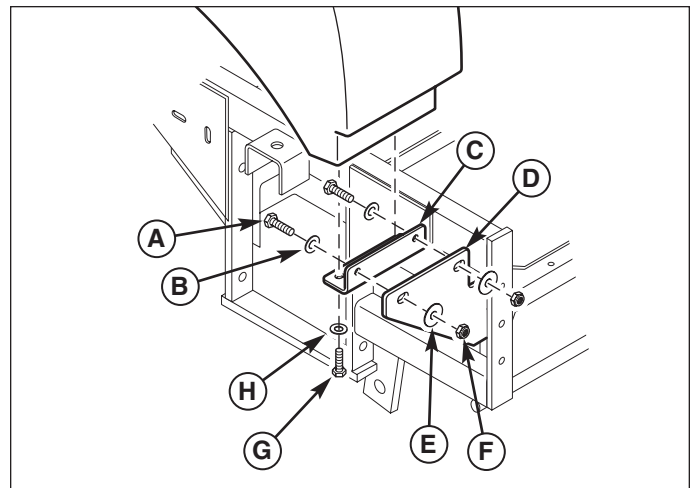

Figure 1. Fuel Tank Installation
2. Install the new tank mount bracket onto the existing tank mount plate and secure with the supplied hardware. See Figure 1 below for mount and hardware orientation. Make sure to use the holes to mount the bracket.